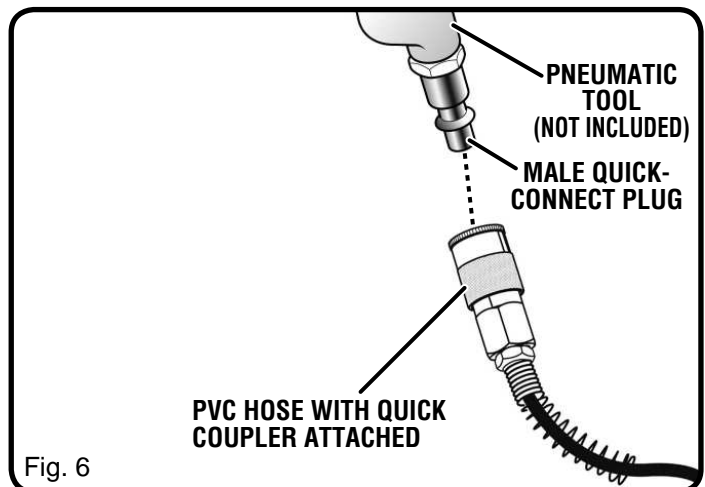

Fig. 6
- Connect the air powered tools to the air hose by inserting the male quick-connect plug to the quick-coupler at the end of the hose (see Fig. 6).
- Turn the ON/OFF switch to the **ON (I)** position.